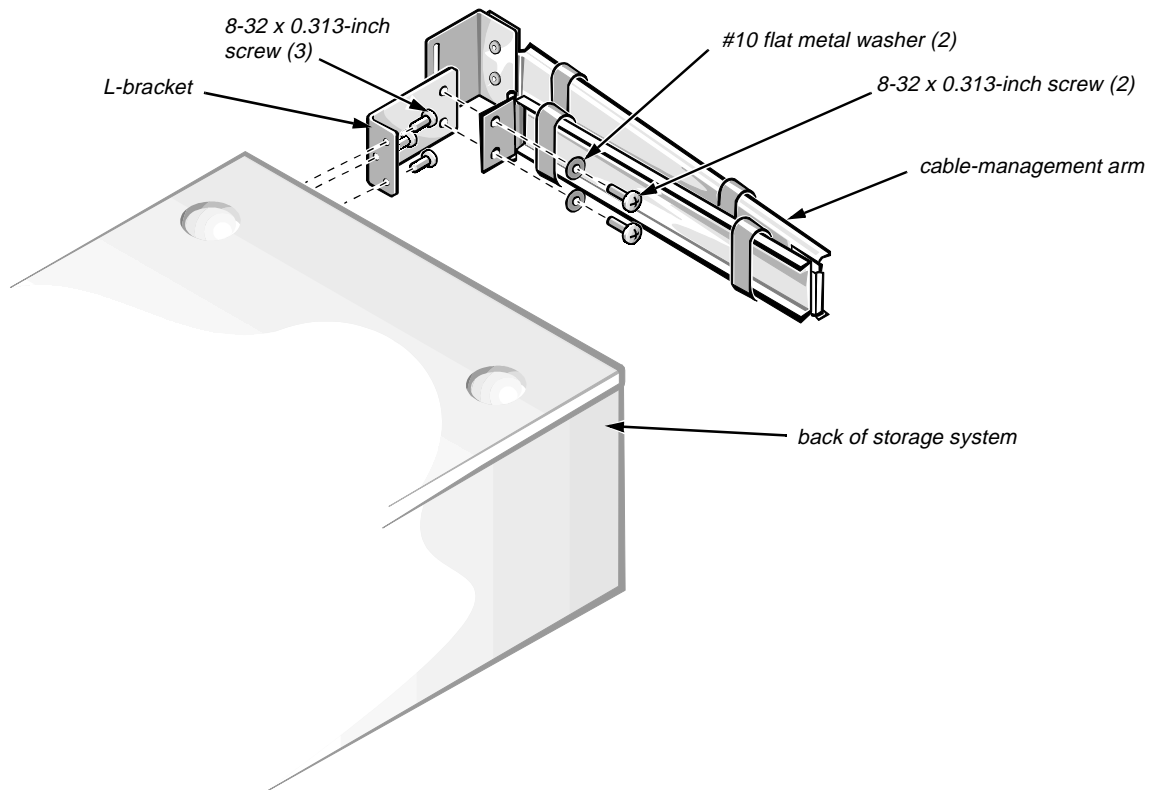

Figure 2-11. Installing the L-Bracket and Cable-Management Arm
2. **Attach the L-bracket to the back of the storage system (see Figure 2-11).**
3. **Attach the cable-management arm to the L-bracket (see Figure 2-11).**